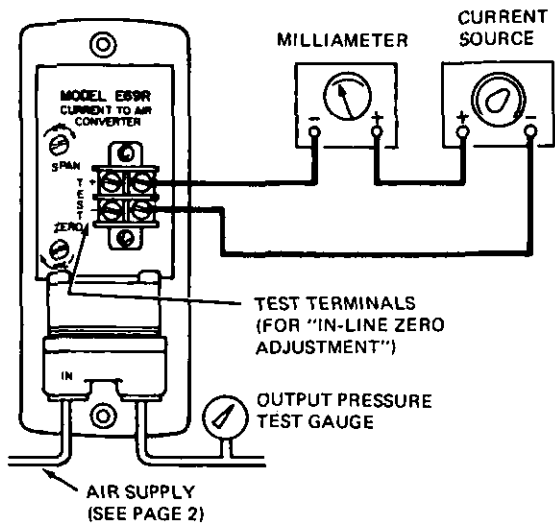

Figure 4
1. Connect voltmeter to TEST terminals on front of converter. See Figure 4. (100 and 500 mV correspond to 0 and 100% of calibrated input.)
1. Set up equipment as shown in Figure 4.
1. Set up equipment as shown in Figure 4, with side covers and top rail removed. Turn on air supply and current source.